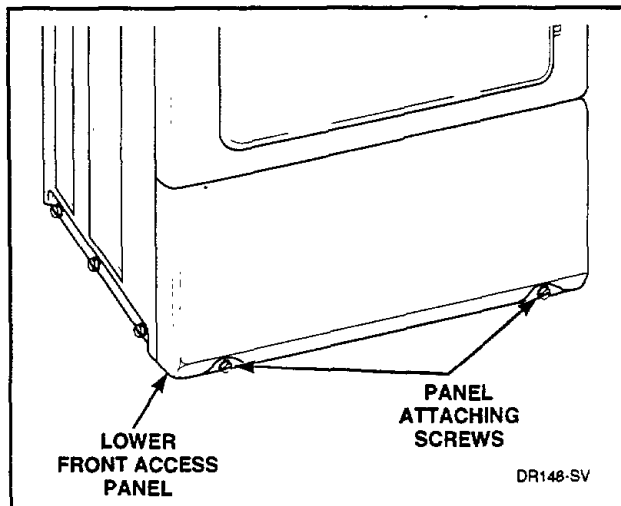

Figure 49
- While supporting the lower access panel, remove two screws from bottom edge of lower front access panel. *Figure 49.*
- While supporting the lower access panel, remove two screws from bottom edge of lower front access panel, *Figure 49.*
- While supporting the lower access panel, remove two screws from bottom edge of lower front access panel, *Figure 49*.